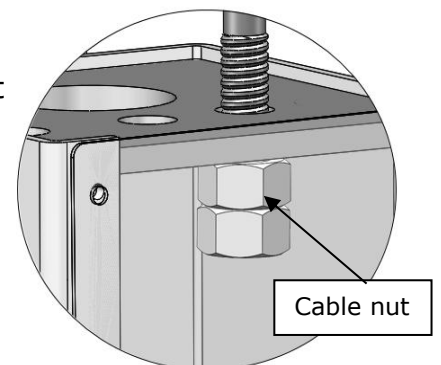

Fig. 49
1. Adjustment of synchronous cable (See Fig. 49)